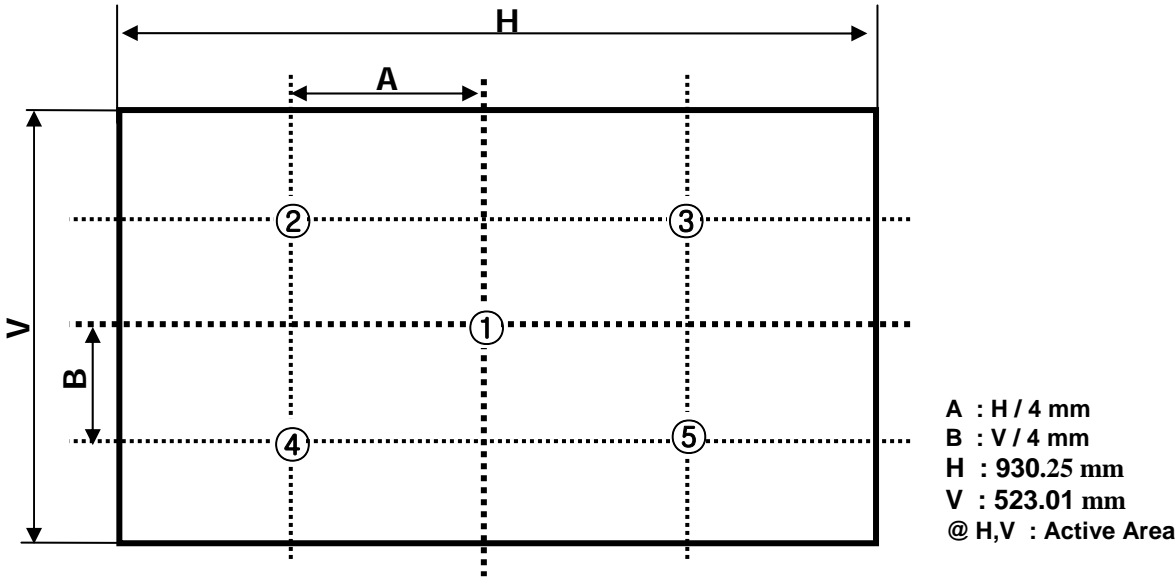

FIG.2 Measure Point for Luminance
n = the Position number(1, 2, 3, 4, 5), For more information, see FIG. 2.
2. Surface luminance are determined after the unit has been 'ON' and 30min after lighting the backlight in a dark environment at $25 \pm 2^\circ\text{C}$. Surface luminance is the luminance value at center 1-point across the LCD surface 50cm from the surface with all pixels displaying white. For more information see the FIG. 2.
For more information, see the FIG. 2.